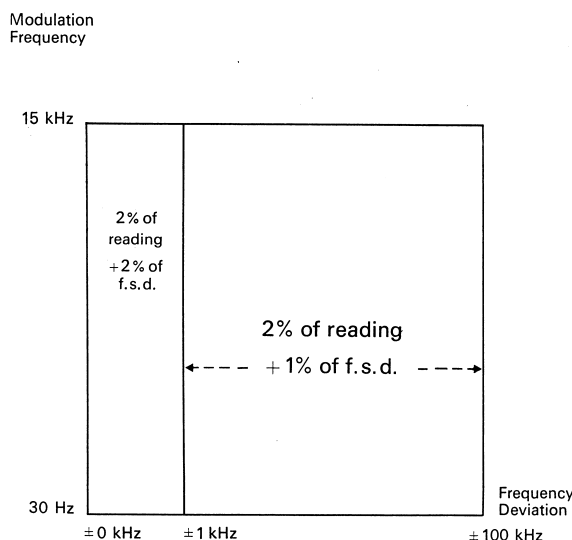

Fig.E3. Accuracy of frequency deviation measurements.
- 11) In order to obtain the best accuracy, select the low-pass filter corresponding to the modulation frequency of the signal under test. See Fig.E3, and refer to SECTION B - SPECIFICATIONS under "FM MODULATION - Accuracy".